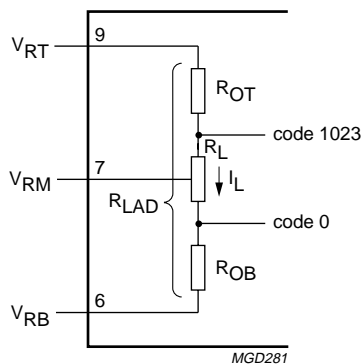

Fig.3 Explanation of note 3.
- In order to ensure the optimum linearity performance of such converter architecture the lower and upper extremities of the converter reference resistor ladder (corresponding to output codes 0 and 1023 respectively) are connected to pins V_{RB} and V_{RT} via offset resistors R_{OB} and R_{OT} as shown in Fig.3.